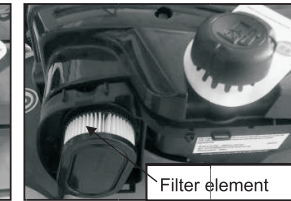

Fig.13B
3. Wash filter element in soapy water. (Fig.13B) **DO NOT USE GASOLINE!**